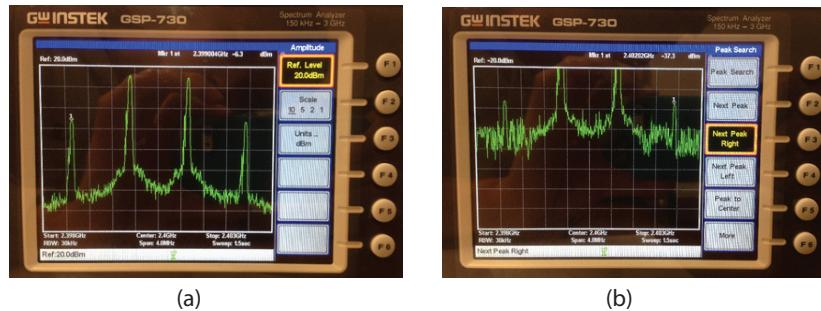

Figure 21: Screenshot of the amplifier two-tone measurement. (a) Low signal level; (b) High signal level.
4. The spectrum analyzer screen should look like the following. The fundamental signals will be beyond what the screen can display (Fig. 21-b); we do this intentionally to keep the reference level small (-20 dBm) to obtain a better measurement result. You can use "F1" - "F6" key to locate every fundamental tone and 3rd order intermodulation (IM3) signals.